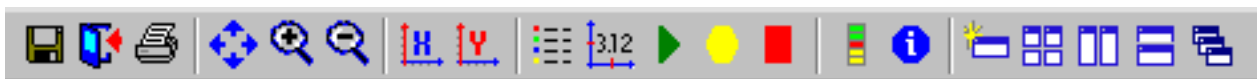

Fig 1
1. Display windows now selectable from tool bar -> Fig. 1